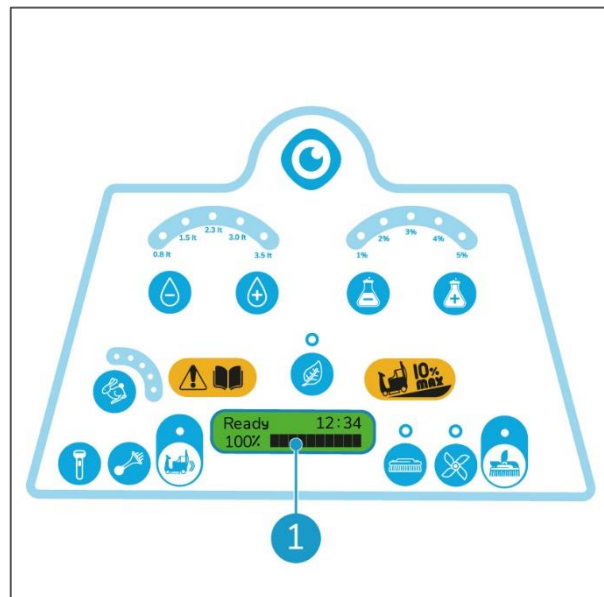

Figure 60
10. Wait a few seconds. The display should indicate 100% and all 10 bars of the battery level display should be visible (Figure 60, pos 1). The i-drive is ready for a new working cycle.